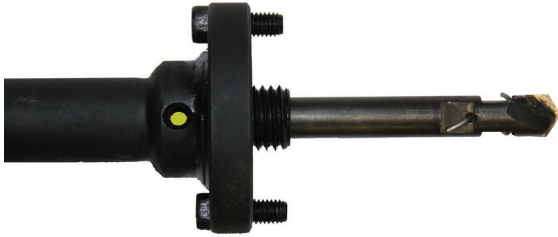

Figure 21
2.11.9) Confirm you have completely inserted the pilot drill and engaged the tapered flat. Look into set screw hole for the marking on the pilot drill. Adjust the pilot drill until you can see the marking (see Figure 21).